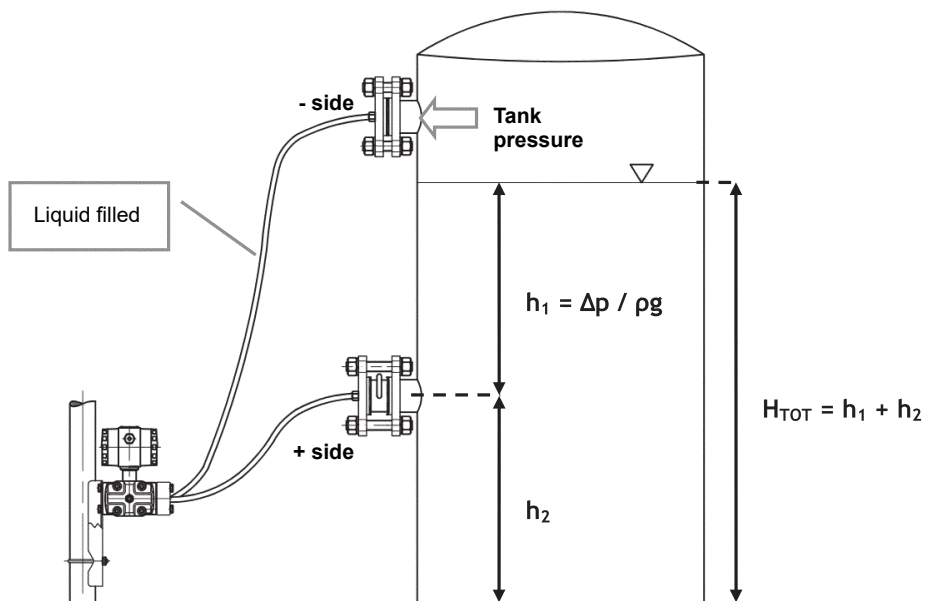

Fig. 5 - Level measurements in closed vessels with corrosive vapors
- Referring to **Fig. 5**: the descending pipes can be filled with condensate vapors of the process fluid or with suitable inert liquid to prevent direct contact with the transmitter diaphragm.